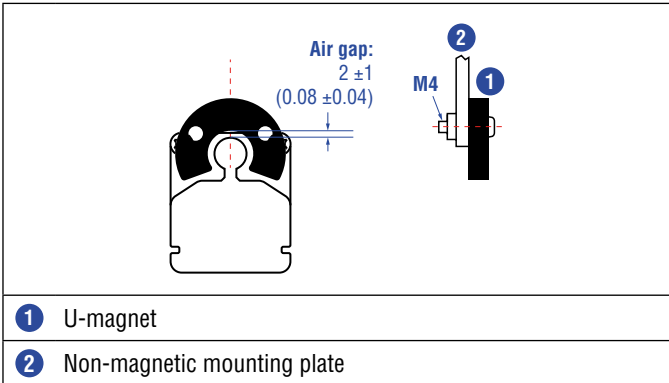
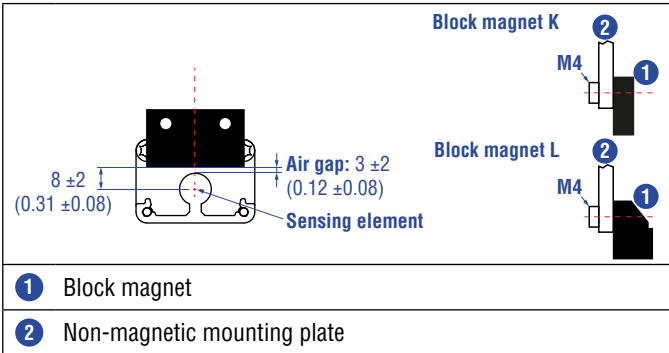

Fig. 16: Mounting of U-magnet (part no. 251 416-2), example of EP sensor
Fig. 17: Mounting of block magnet K (part no. 251 298-2) and block magnet L (part no. 403 448), example of EL sensor
- Mount block magnets centrically over the sensor rod or the sensor profile. The maximum permissible air gap must not be exceeded (Fig. 16, Fig. 17).